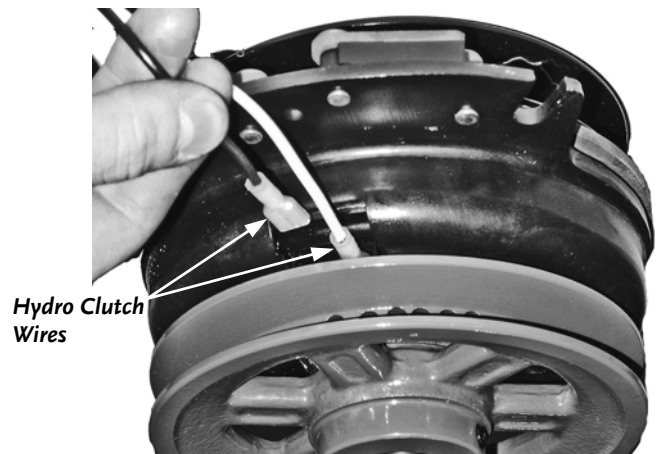

Figure 14b
3. Disconnect the Electrical Wires from the Clutch (**Figure 14b**).